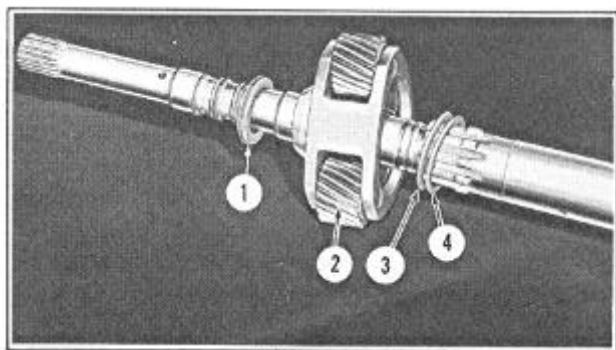
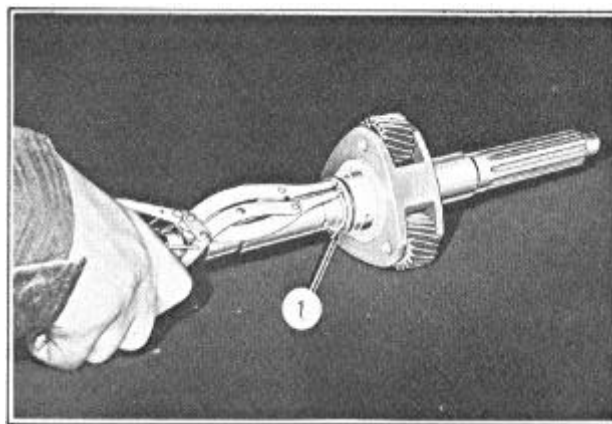

FIGURE 124
FIGURE 125
14. Apply a coat of petroleum jelly to the oil seal ring (3) and the outer "O" ring seal (2) and install the rear ring in the low brake drum.
15. Install the rear planetary sun gear front thrust washer (4), Figure 124, on the mainshaft with the steel face of the washer toward the front of the mainshaft and engage the washer with the splines of the mainshaft.
**NOTE:** If the planetary carrier has a counter-bore on the inside front face, a steel spacer (3), must be used between the front sun gear thrust washer (4) and the planet carrier.
17. Install the planetary carrier oil seal ring (1), Figure 124, in the retainer and slip the retainer on the mainshaft. Press the mainshaft into the seal retainer far enough to allow installation of the snap ring (1), Figure 125.